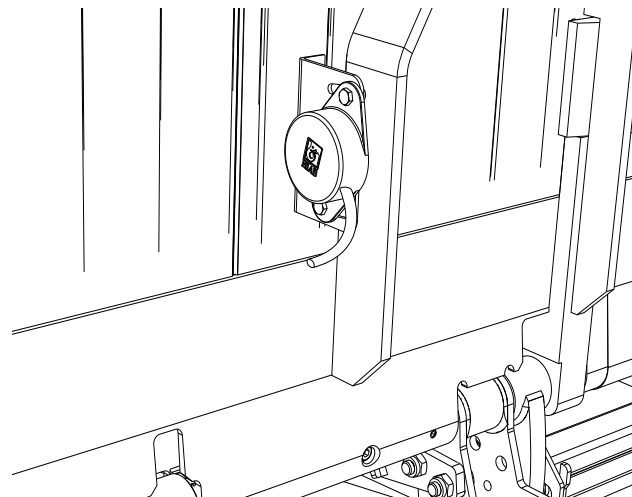

Figure 17. Mounted angle sensor
3. Mount the angle sensor with the connection cable pointing downwards and out on the bracket using the attached screws, see Fig 17.